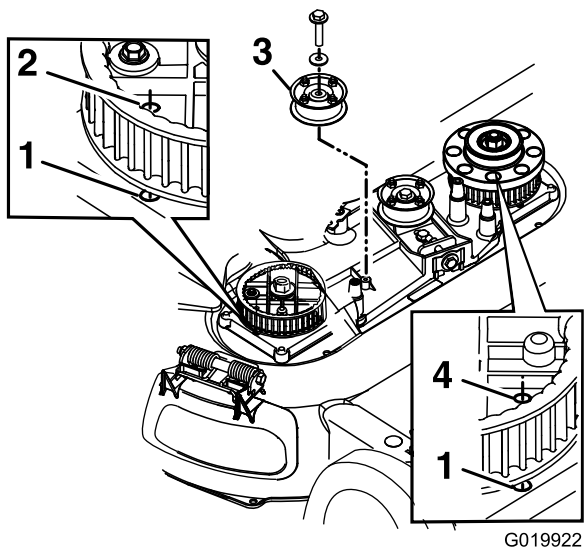

Figure 41
- Remove the fixed idler pulley and the hardware (Figure 41).
10. Align the holes in the right-hand and left-hand sprockets with the holes in the housing as shown in Figure 41.